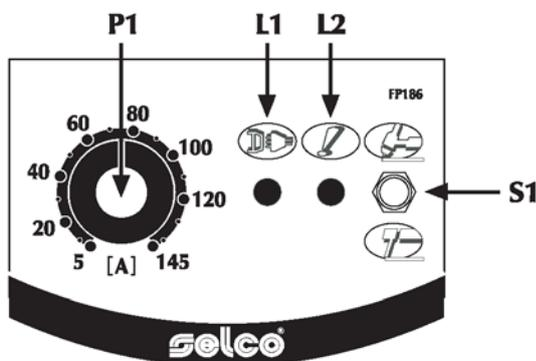

Fig. 1
5.1 PANNELLO COMANDI FRONTALE (FIG. 1)